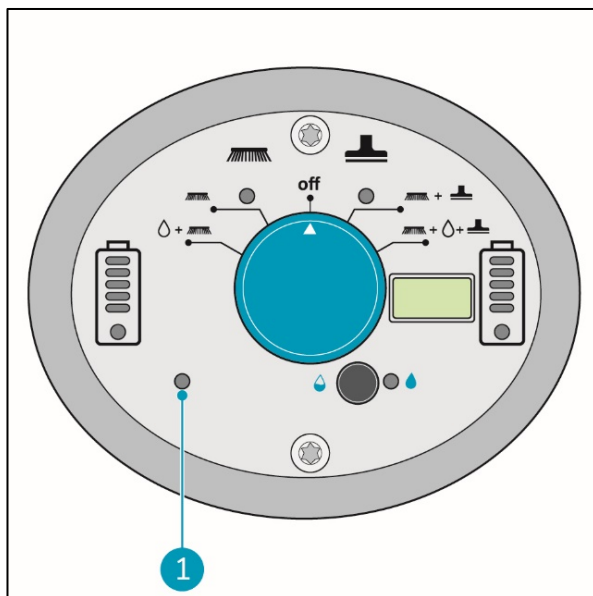

Figure 20
The water level warning indicator is situated on the control panel (Figure 20, pos 1). When the recovery tank needs to be replaced, the indicator light will turn on and the machine will be shut off.